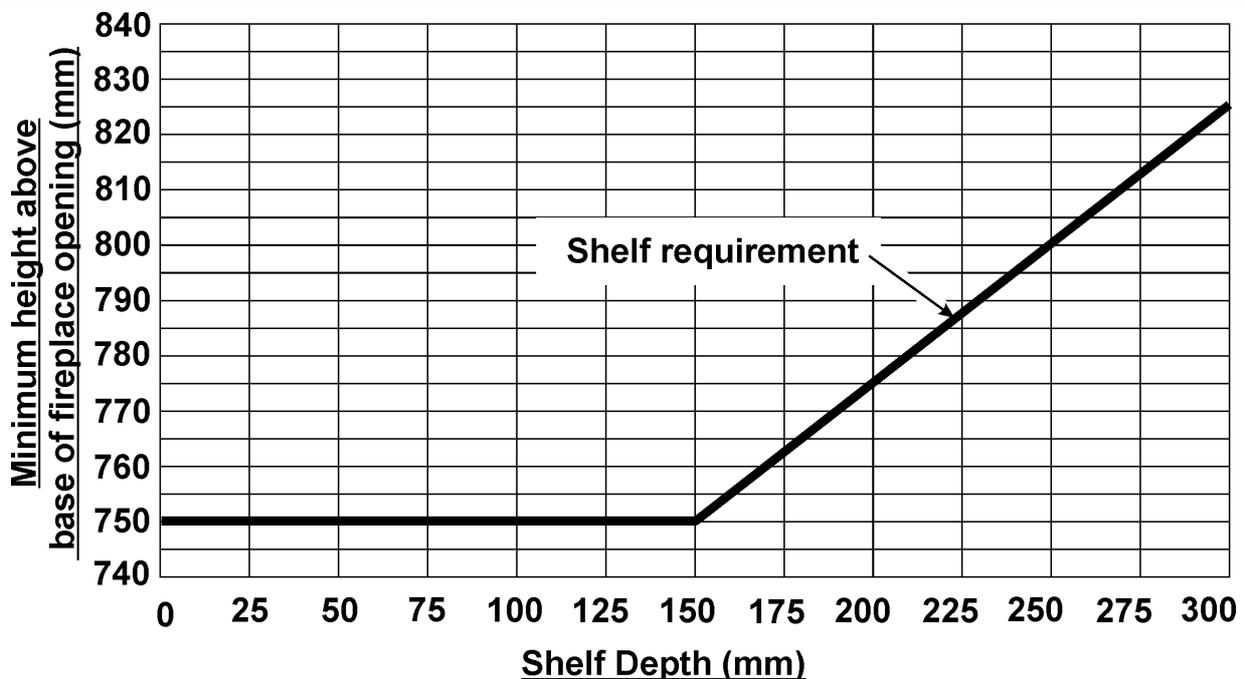

Figure 1. Combustible shelf clearances
**Do** provide a minimum clearance of 750mm from the top surface of the hearth to any shelf made of wood or other combustible material where the shelf is not more than 150mm deep. For a shelf deeper than 150mm, add 12.5mm to the clearance for every 25mm of additional shelf depth (See figure1).